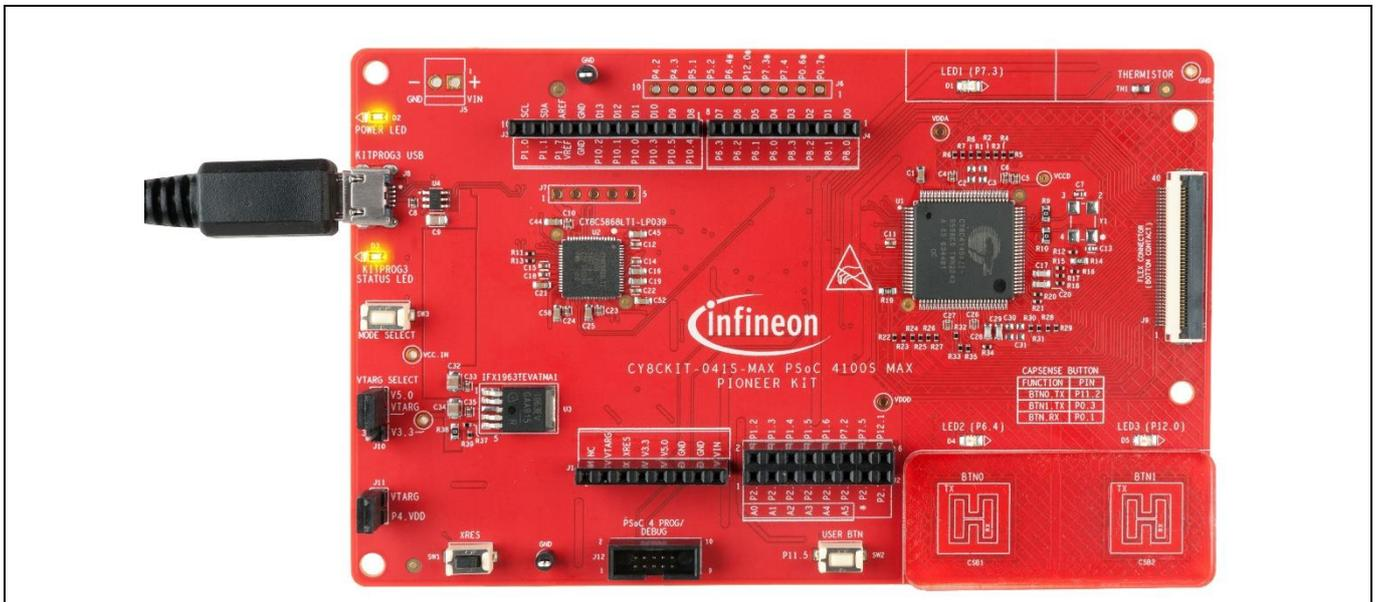

Figure 7 Connect USB cable to USB connector on the board
1. Connect the board to the PC using the USB cable, as shown in Figure 7. It enumerates as a USB composite device if you are connecting it to your PC for the first time. KitProg3 operates in CMSIS-DAP Bulk mode, the status LED (yellow) is always ON in CMSIS-DAP Bulk mode. If you do not see the desired LED status, see the KitProg3 User Guide for details on the KitProg3 status and troubleshooting instructions.